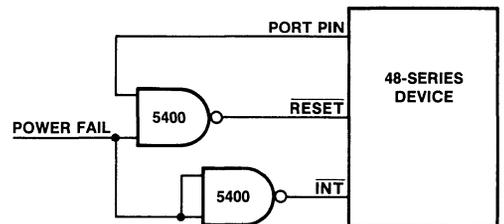

FIGURE 5-5. Driving and Holding $\overline{\text{RESET}}$ Active
Figure 5-5 illustrates how the $\overline{\text{RESET}}$ input may be driven low. When power is initially applied to the system, the Power Fail input to the NAND gate is a logic low (0) and the port pin input to the NAND gate is a logic low level. In the event of a power failure, the power fail input to both NAND gates becomes a logic high (1) and the $\overline{\text{INT}}$ input to the 48-Series device goes active low (0). The $\overline{\text{INT}}$ input to the device signifies a power failure and the CPU performs a power-fail routine. The power-fail routine saves the machine status and forces the port pin input to the NAND gate to a logic high. With both the power-fail and the port pin inputs at a logic 1 level, the